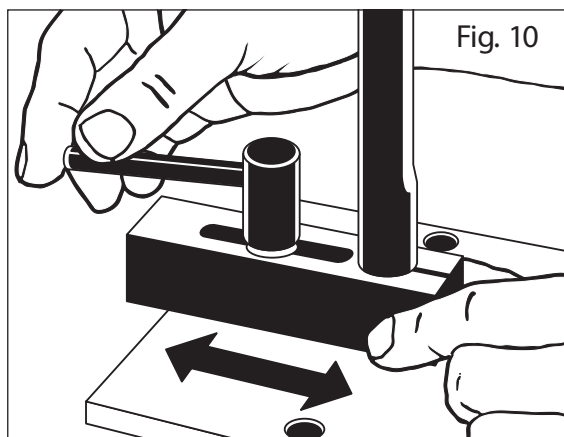

Fig. 10
2. Adjust lever adjustment block so pressure foot locates over middle moulding or where even downward pressure can be applied (Fig. 10).